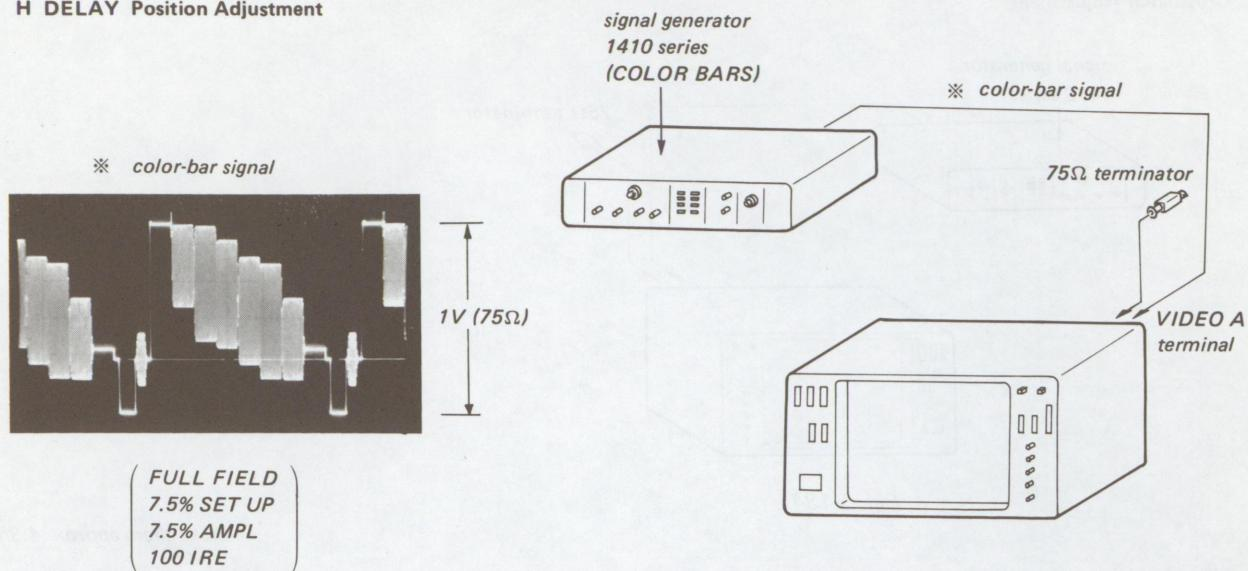

Fig. 5-131.
1. Complete the connections as shown in Fig. 5-131.